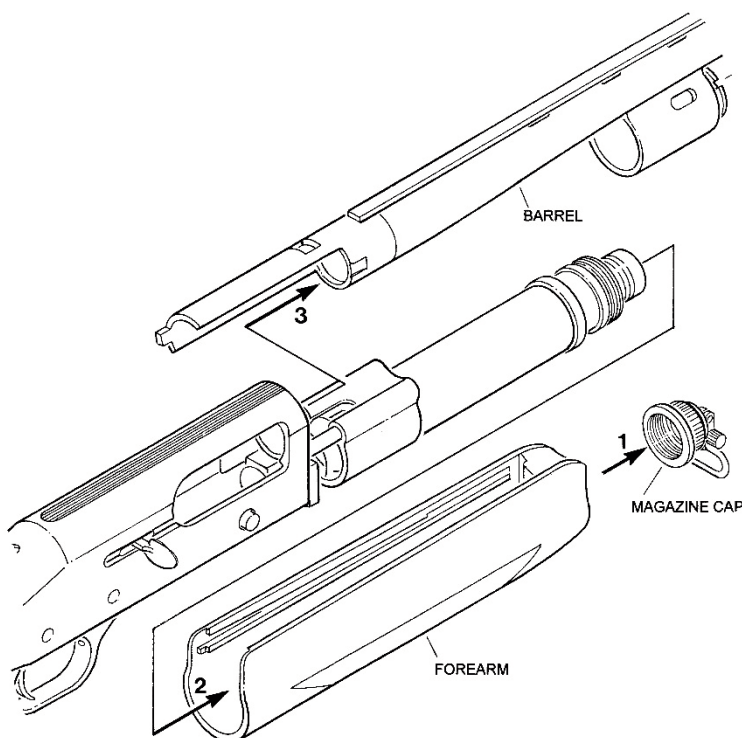

Figure 9
Unscrew and remove the magazine cap (Figure 9). Grasp the barrel and forearm to prevent them from sliding forward. Do not place your hand over the muzzle at any time. Point the muzzle downward and shake the firearm in an up and down motion until the wooden dowel falls through the opening at the end of the magazine tube.
Unscrew and remove the magazine cap (Figure 9), insert either end of the wooden dowel at the end of the magazine tube, inside the coils of the magazine spring. Replace the magazine cap finger tight only. Do not use pliers or a wrench to tighten the magazine cap.
1. Unscrew the magazine cap (Figure 9).